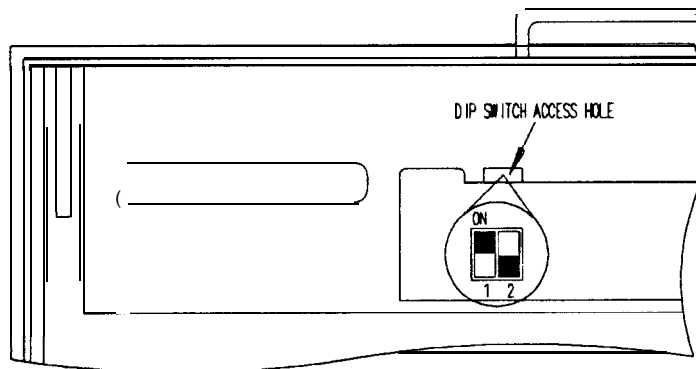

Figure 1. **Bottom View of Honeywell 101 Keyboard**
13. Turn keyboard upside down and locate the opening **for** the Dip Switches. Set SW1 to 'ON" and SW2 to "OFF". This switch configuration will enable the XT mode for the Honeywell 101 keyboard. Refer to Figure 1.